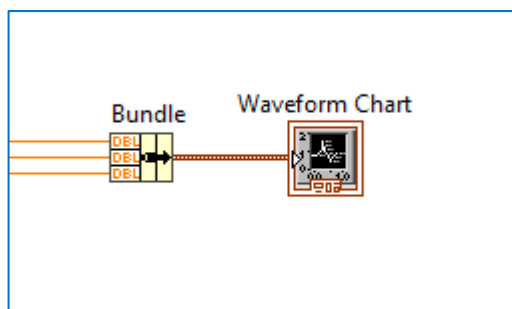

Figure 9. Block diagram view: Waveform Chart connection
6.9.- Connect the range values as well as the data from the sensor to a Bundle and show it on the Waveform Chart (*Figure 9*).